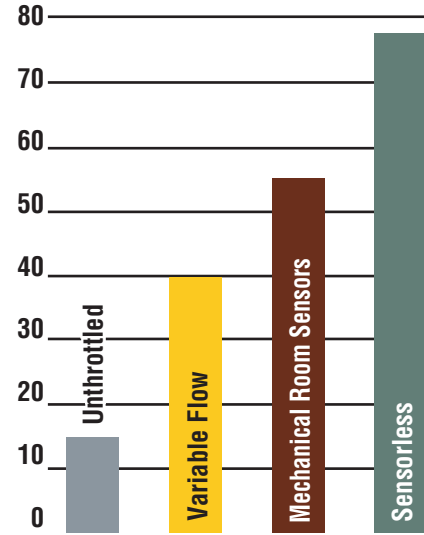

Figure 2
1. Variable-speed Drive. Most constant-speed, constant-flow systems have a throttling device that is throttling 15 percent. They have a throttle valve somewhere that throttles the flow, and dissipates an estimated 15 percent of the pumping power. So the first area of opportunity is to install a VSD and open the throttling valve. Doing so improves efficiency by 15 percent (see **Figure 2**).